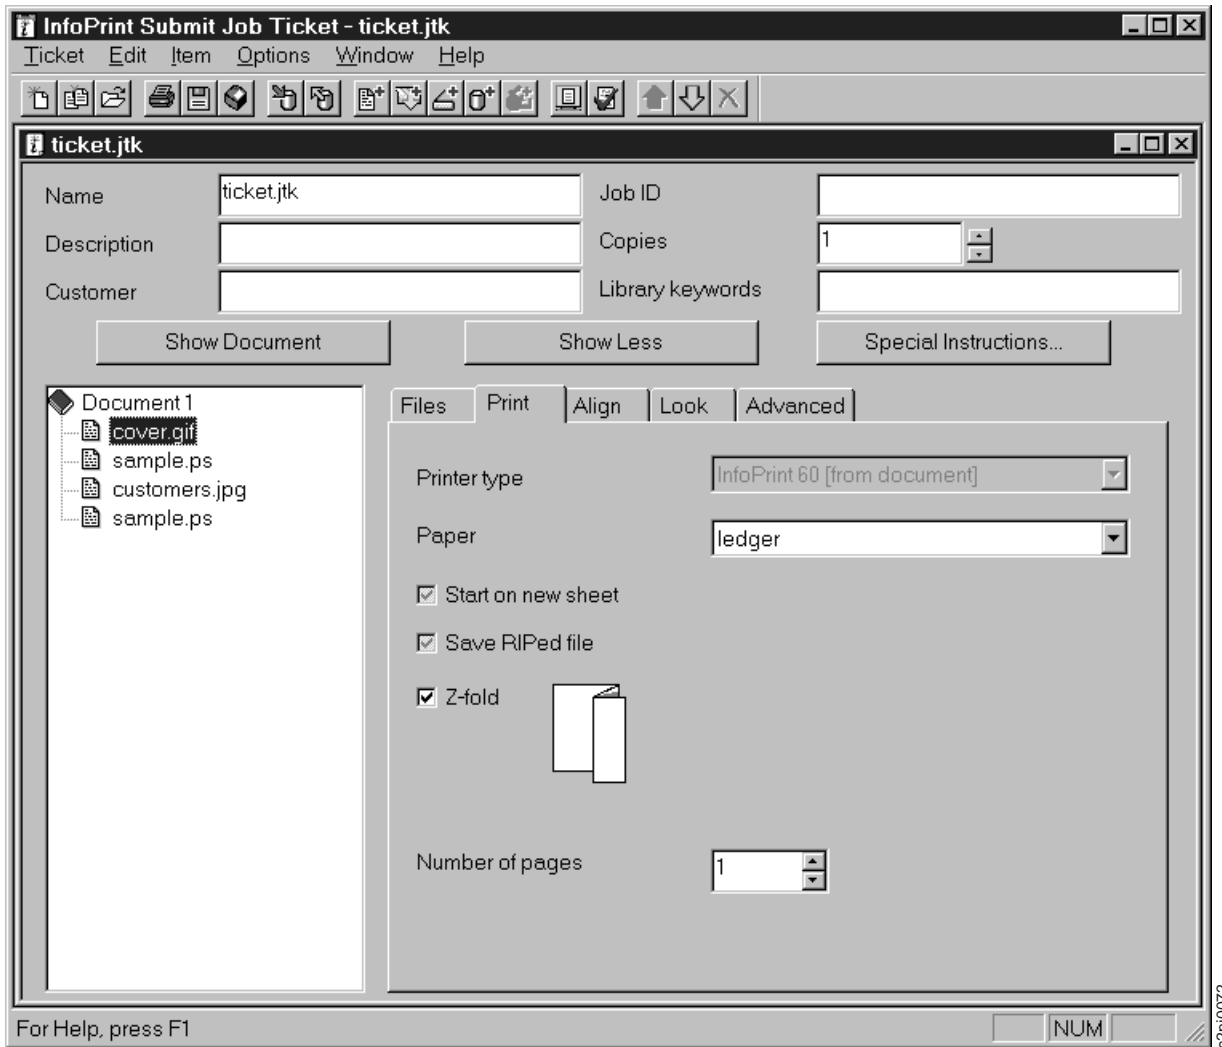

Figure 37. Edge-Stitched with Z-Folded Sheets - Print Tab
4. Select the "Print" tab. You see the print tab window (Figure 37 on page 39).